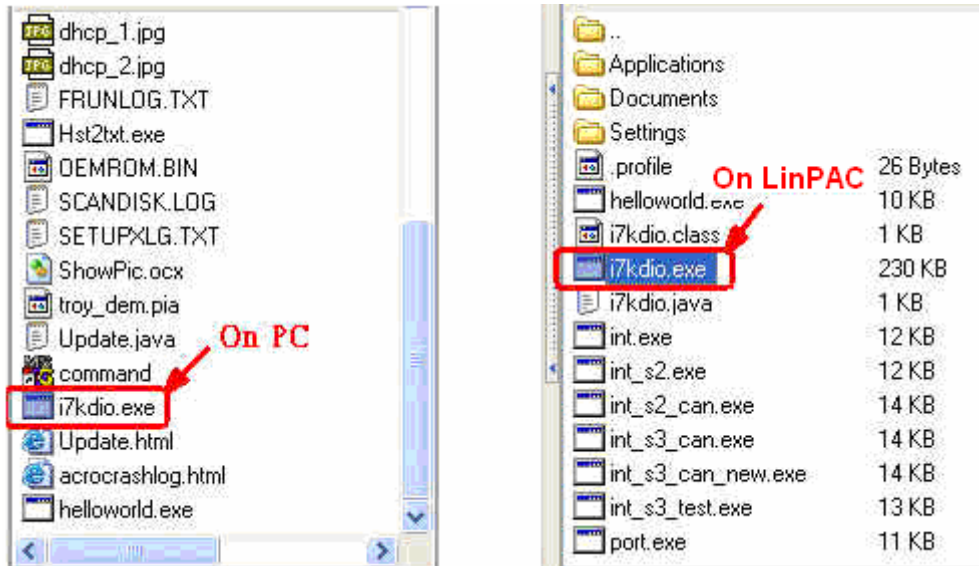

Fig.7-4
Step2: Upload the file **i7kdio.exe** file to the LP-8x21. (refer to Fig.7-4).